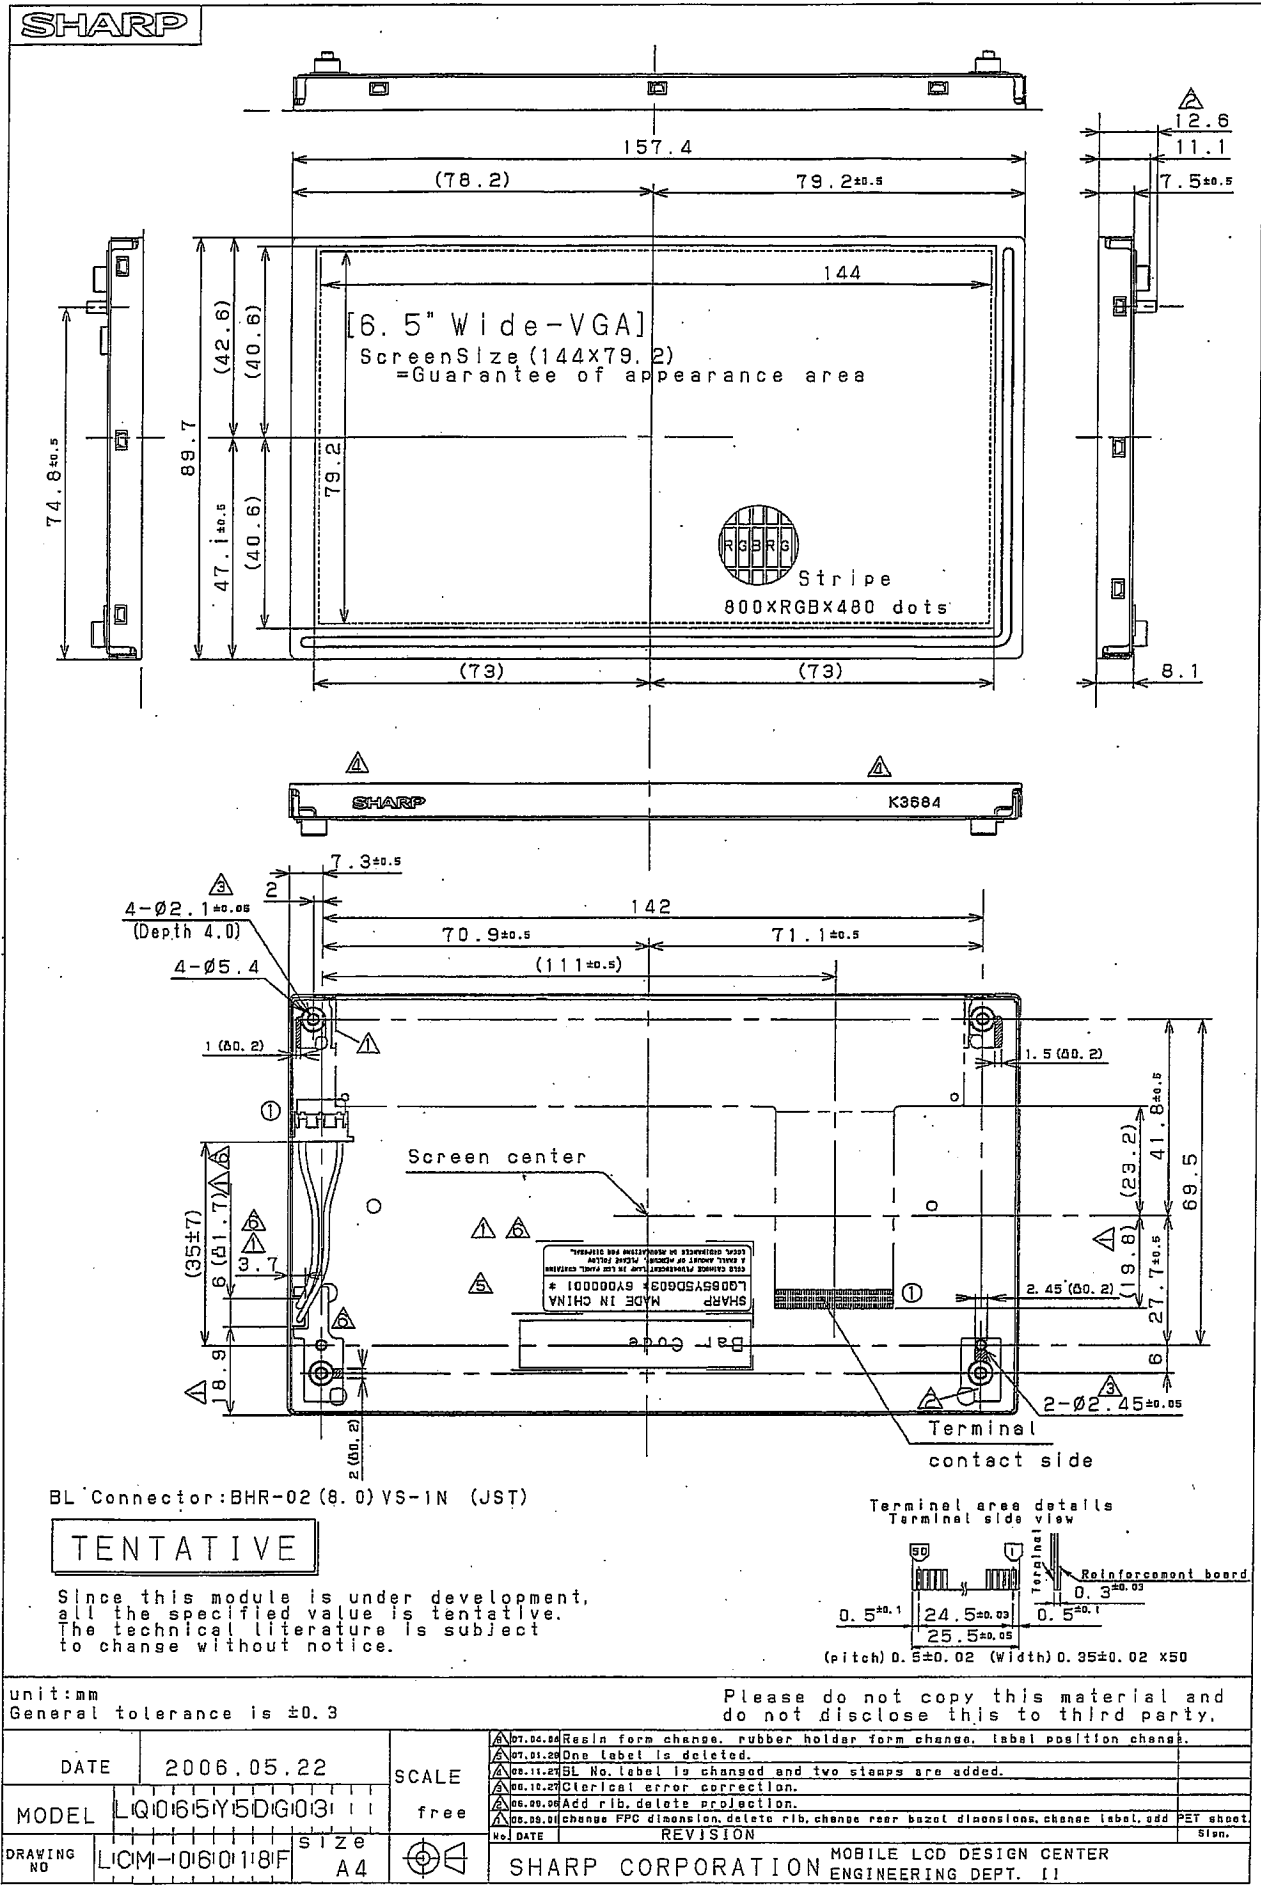

Fig.1 Outline Dimensions
① Attached location of the label : See Fig.1 (Outline Dimensions).
② Indicated contents of the label